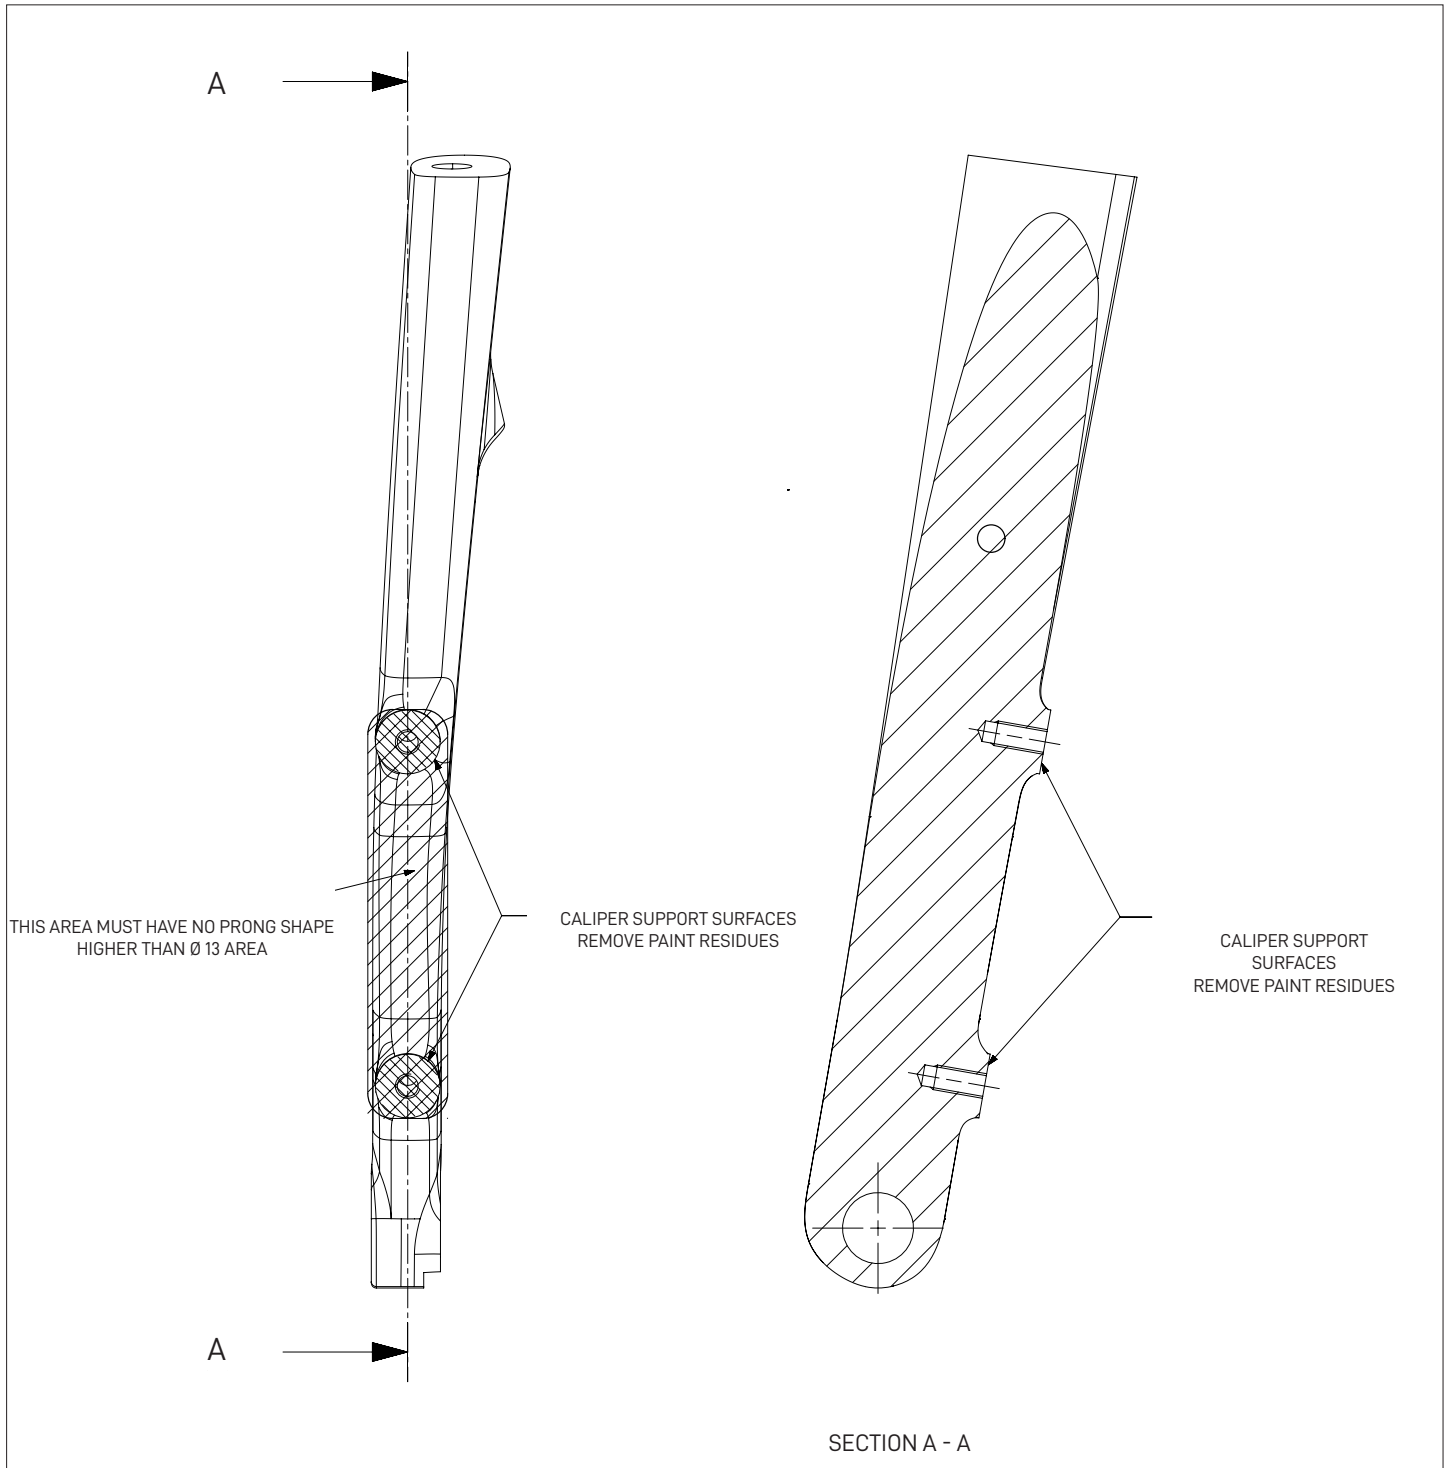

Fig.1
- Remove all traces of paint from the areas where the callipers are to be installed on the fork and the left-hand chain stay. Also remove all traces of paint from the bottom part of the holes on the chain stay, where the rear calliper screw heads rest. (Fig.1 - 1.1).